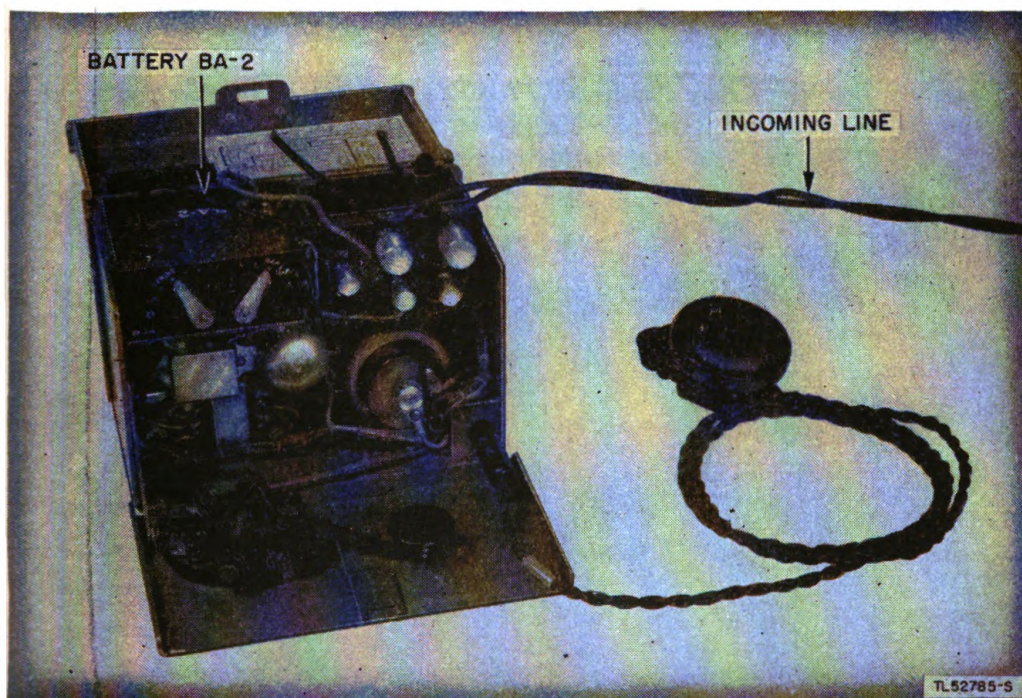

Figure 18. Telegraph Set TG-5-A ready for use.
(fig. 18).
- d. If the telegraph set is being connected to a metallic circuit, connect one wire of the line to the terminal marked L1 on the terminal block of the telegraph set. Connect the other line wire to the terminal marked L2. (See fig. 18.)